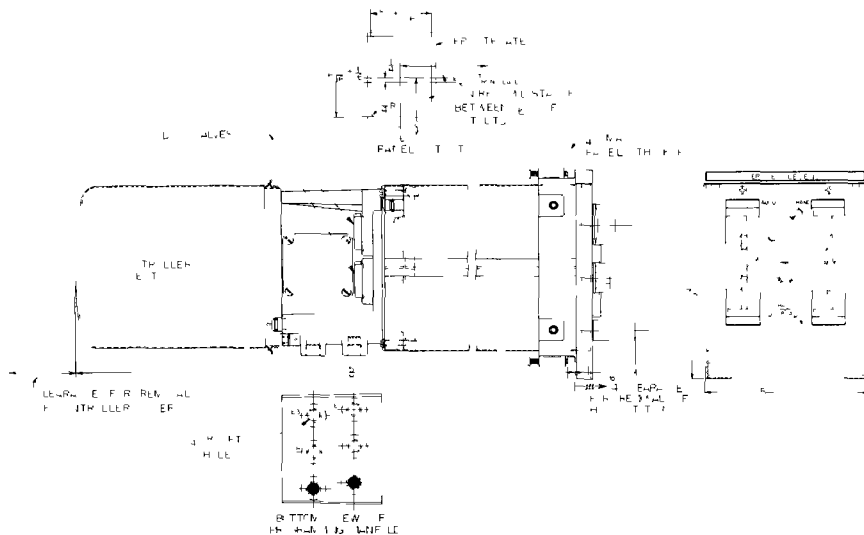
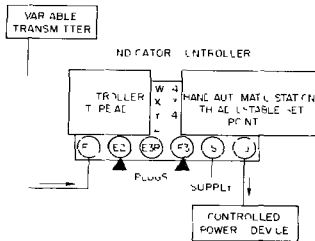

FIGURE 1 Bayley MINI-LINE 500 Indicator-Controller, Mounting Dimensions
FIGURE 4 Application of Indicator Controller to Single Element Control System
- 1 Cut out panel mounting hole to dimensions shown in Figure 1
- 4 Plug Type AD Controller into rear of programming manifold and secure with three captive screws on Controller assembly (Figure 1).
- 5 Make tubing connections to bottom of programming manifold (Figure 1) as indicated in Figure 4, 5, or 6 or as given on Control Tubing Diagram for specific system
- 7 Set disc valves (Figure 1) to proper position in accordance with control system requirements (see "operation"). Lock disc valves in position with retaining screws.
The programming manifold contains six tubing connections (Figure 1) and four disc valves (Figure 2). Each disc valve has up to six rotational positions. Each position provides a variation in the interconnecting air passages between the Selector Station and the Controller. Figure 3 is a schematic drawing of the interconnecting air passages. Table A is a tabulation of the interconnections for specific disc valve settings.
Figures 4, 5, and 6 shows the Indicator Controller as it is used in three common control modes. If an Indicator Controller is used as part of a control system, the required connections will be shown on the system schematic tubing diagram, and the disc valve settings will be given on the Controller calibration sheet.
3. Connect separate variable inputs to Indicator-Controller programming manifold (Figure 1) Plug output connection "O". Set Indicator Controller disc valves (Figure 2) as follows